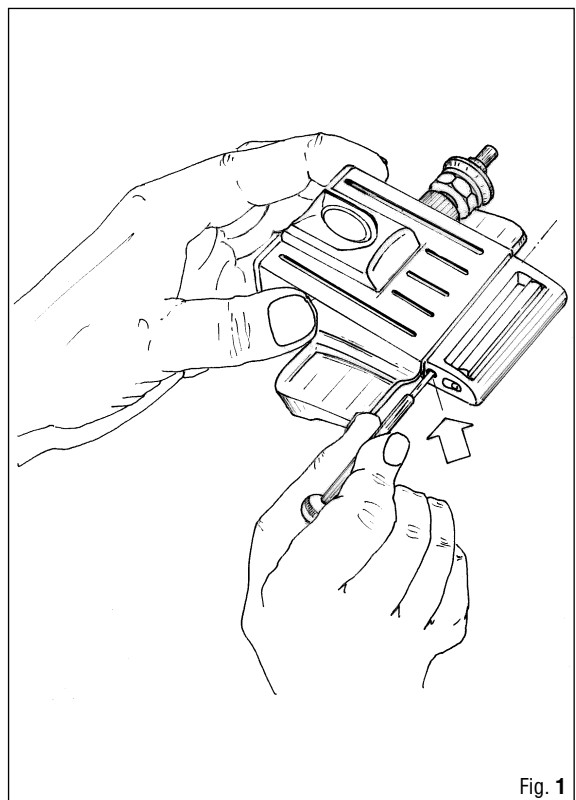

Fig. 1
BEFORE PROCEEDING WITH THE OPERATION DESCRIBED IN STEP - 4 - CHECK THAT THE HOLE IN BUCKLE (31) WHICH ACCOMMODATES THE STAINLESS STEEL ROD (33) IS COMPLETELY CLEAR OF THE SHELL (32) SEE FIG. 1).
4. Use a metal pointed tool (or special tool B-22, with max diameter 2 mm) to disassemble the stainless steel rod (33), releasing the buckle (34) (SEE Fig. 1).
MARES RECOMMENDS TAKING GREAT CARE TO AVOID DEFORMING AND/OR DAMAGING THE STAINLESS STEEL ROD. (See Fig. 1).